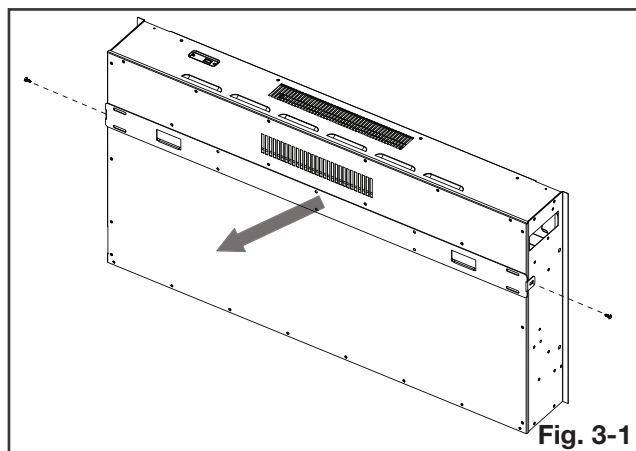

Fig. 3-1
- D. Place the appliance face down on a soft, non-abrasive surface. Remove the wall mounting bracket from the back of the appliance by removing the screws (**Fig. 3-1**). Set the bracket and screws aside.